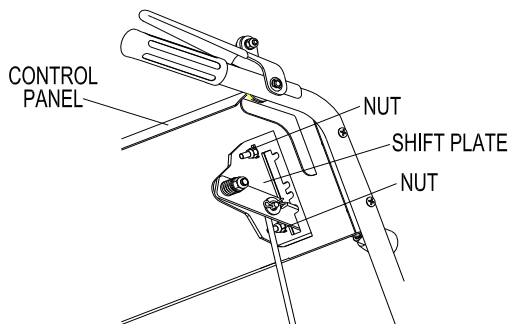

FIG 21
6.5.4 Loosen the flange nuts that secure the shift plate to the control panel. (FIG 21)